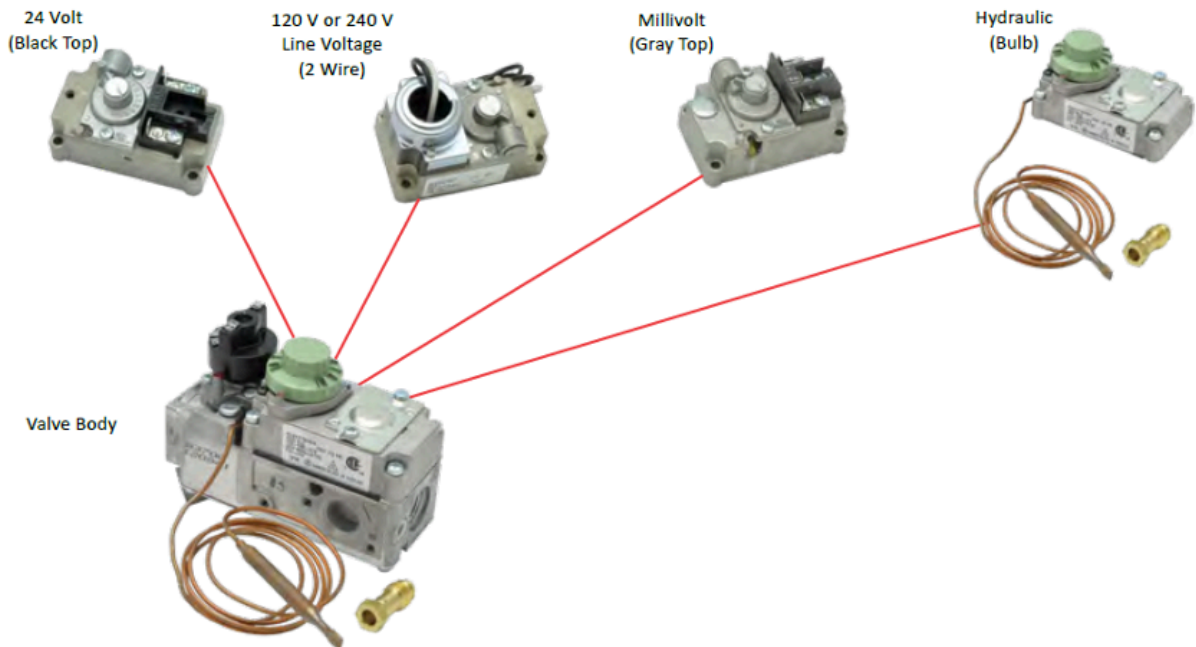

Figure 82. Actuator options
Figure 82 shows a common diaphragm operated control valve which can be supplied with different types of actuators, one of which is the hydraulic type which does not require a power source.
- Figure 82. “Actuator options (<https://www.robertshaw.com/search/?q=catalog&count=10>)” from Robertshaw is used for educational purposes under the basis of fair dealing.